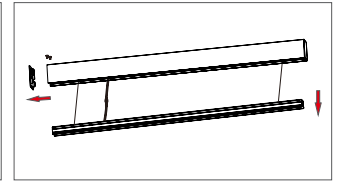

FIGURE 4-3
- III. For End-of-Run, remove the end cap with the power cord and LED module. (Figure 4-3)